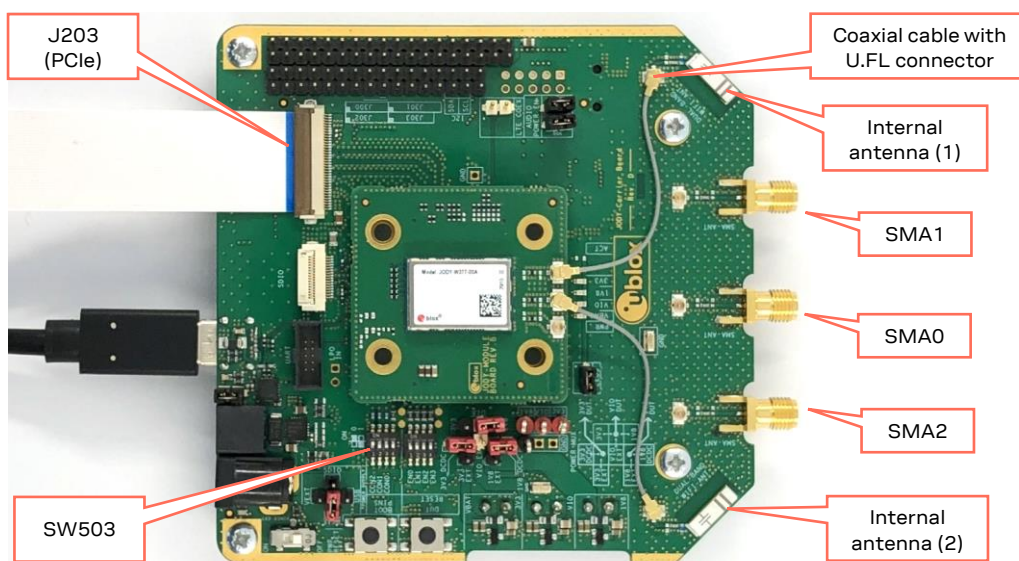

Figure 2: PCIe and USB connectors
- For PCIe connection to the host, use either the M.2 or the mini-PCIe adapter depending on the available connector on the host platform. First, plug the adapter into the PCIe connector on the host system. Then connect it with the flat cable to the connector (J203) on the EVB, as shown in Figure 2. The PCIe interface can be used for Wi-Fi communication with the JODY-W3 series module.